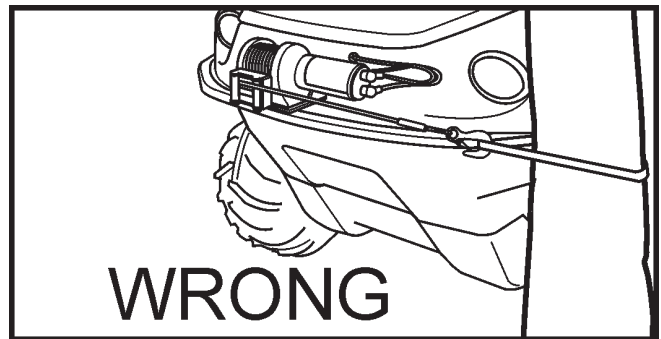
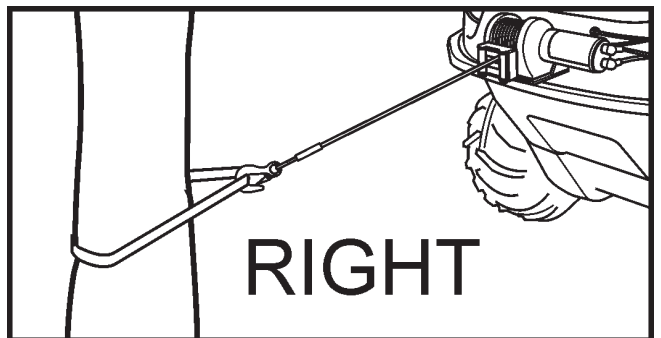

Figure 11-12. Incorrect positioning for continuous pulls.
Figure 11-13. Correct positioning for continuous pulls.
11. Avoid continuous pulls from extreme angles as this will cause the wire rope to pile up at one end of the drum (Figure 11-12 & Figure 11-13). This can jam the wire